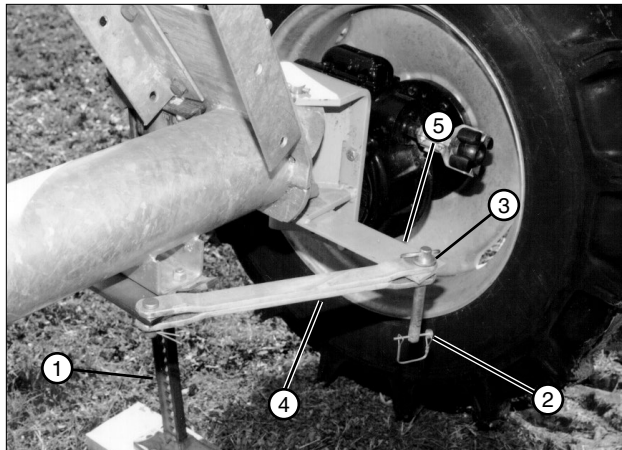

Figure 28-1 1. Jack
1. Use a jack to lift one side of the drive unit until the tire is off of the ground. See figure 28-1